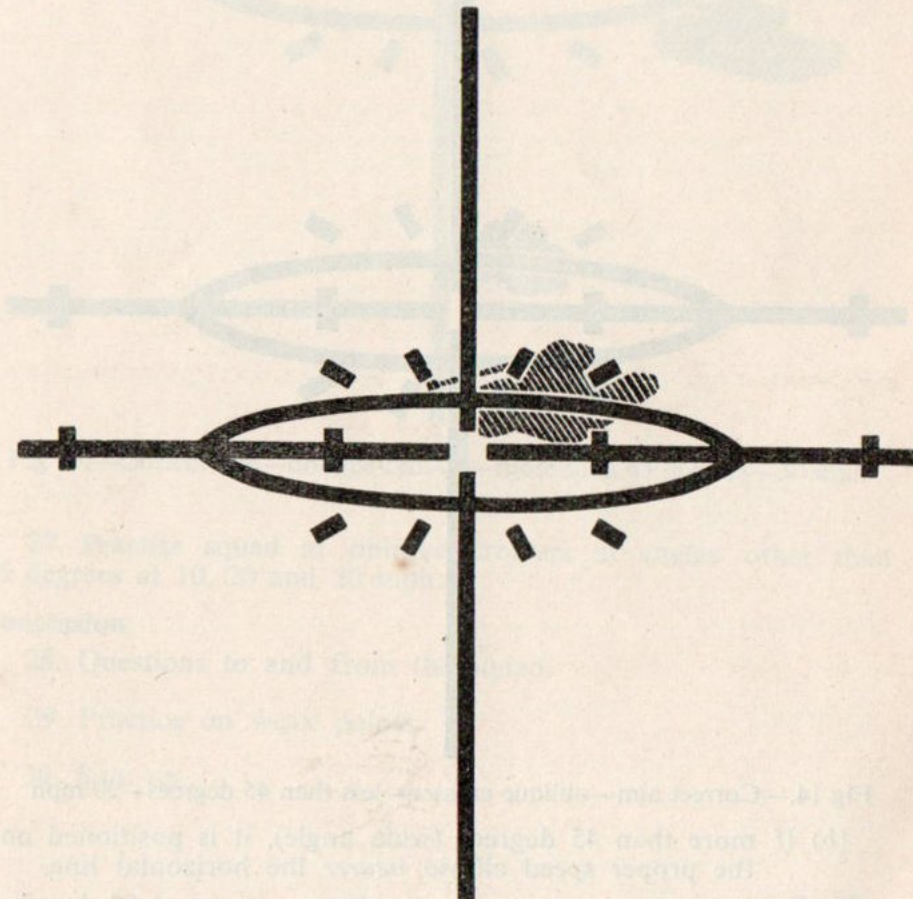

Fig 13.—Correct aim—oblique crosser—45 degrees—20 mph
22. *Oblique crossers at 45 degrees.* Explain, using diagrams (see Fig 13):—